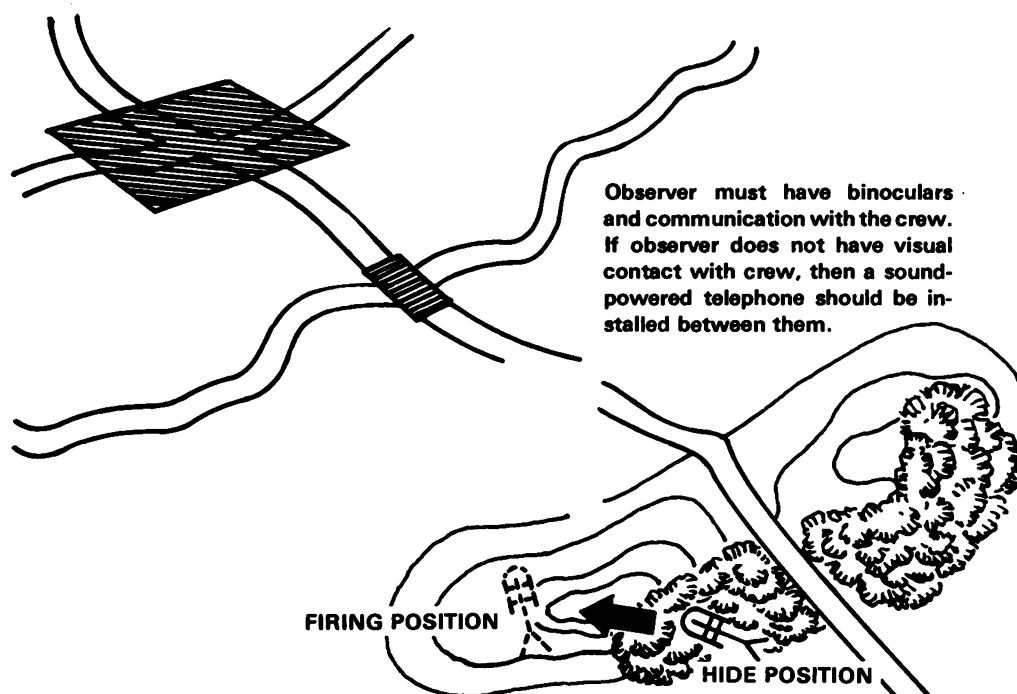

Figure 4.
(2) In the event that a hutdown position is not available, use a hide position (figure 4).